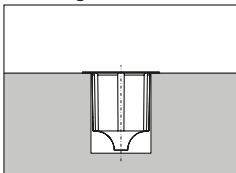

Fig. 2 Plastic insert in the drill hole
6. Press the plastic insert of the eccentric bushing into the hole (Fig. 2).